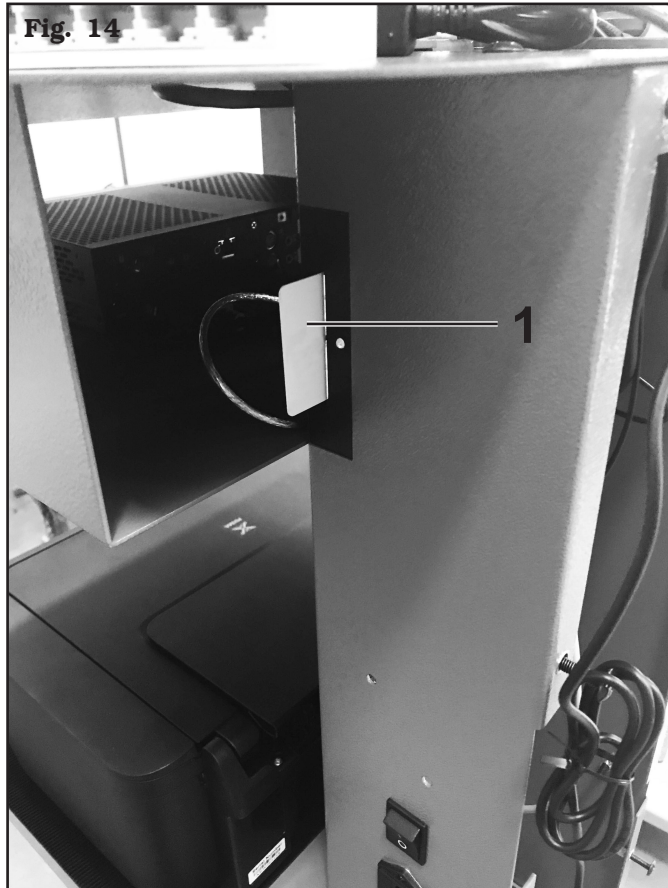

Fig. 14
The equipment is provided with a Smart card (Fig. 14 ref. 1) equipped with serial number allowing the activation of the same equipment (**WARNING: DO NOT THROW AWAY!**).